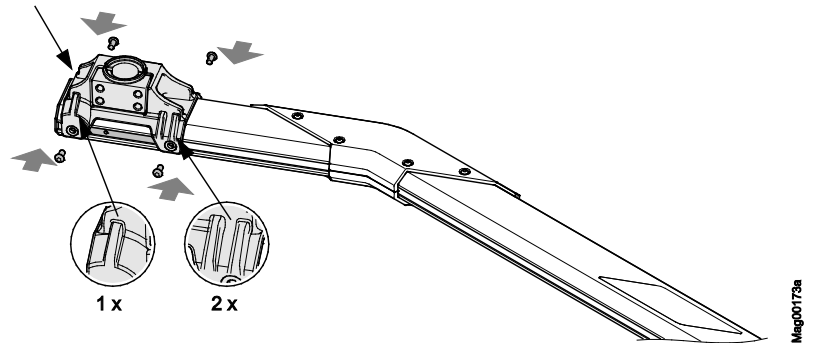

Fig. 27: Installing standard Vario-flange
18. Attach the flange on the other side of the barrier arm. Observe position of the two slot nuts and the additional sheet. The shorter protrusion of the flange must point towards the barrier arm end. → See page 69, Fig. 27.